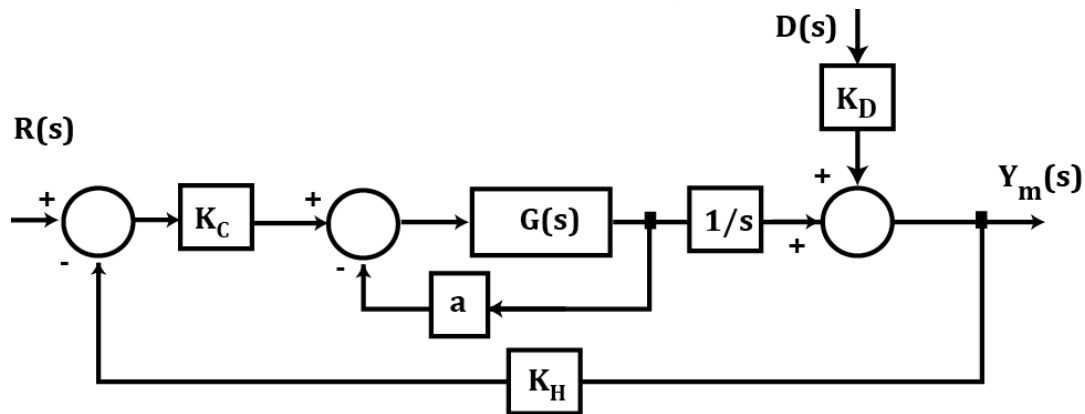

Figure Q1
A closed-loop control system is described by the block diagram in **Figure Q1**.
- (i) Derive an expression for the error signal, $E(s) = R(s) - Y_m(s)$, for the system in **Figure Q1**.
- (i) Use **SIMULINK** to simulate the system in **Figure Q1** for the value of K_C designed in **Q 1(b)(iii)** in response to both of the inputs described in **Q 1(b)(iii)** for 7 seconds; the inner loop containing $G(s)$ and the gain a should be implemented using a single **SIMULINK Zero-Pole** block.
- (ii) For the system in **Figure Q1**, find the sensitivity of the transfer function between the measured output and the disturbance (found in **Q 1(a)(iii)**) to variations in the gain, K_C .